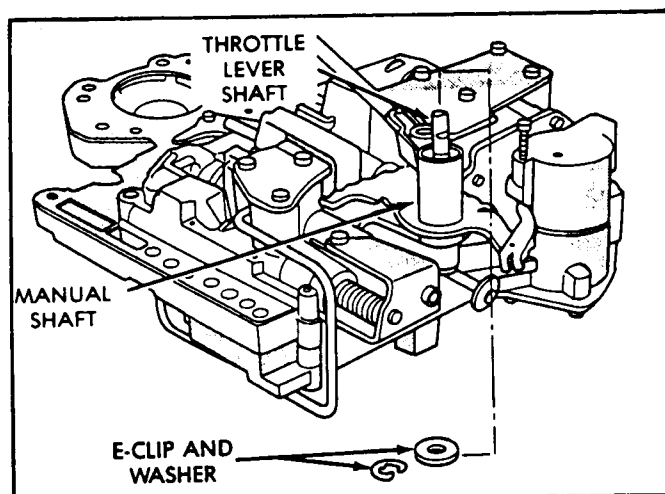

Figure 112
47. Then install throttle lever seal over the shaft, and install the washer and "E" clip as shown in Figure 112.